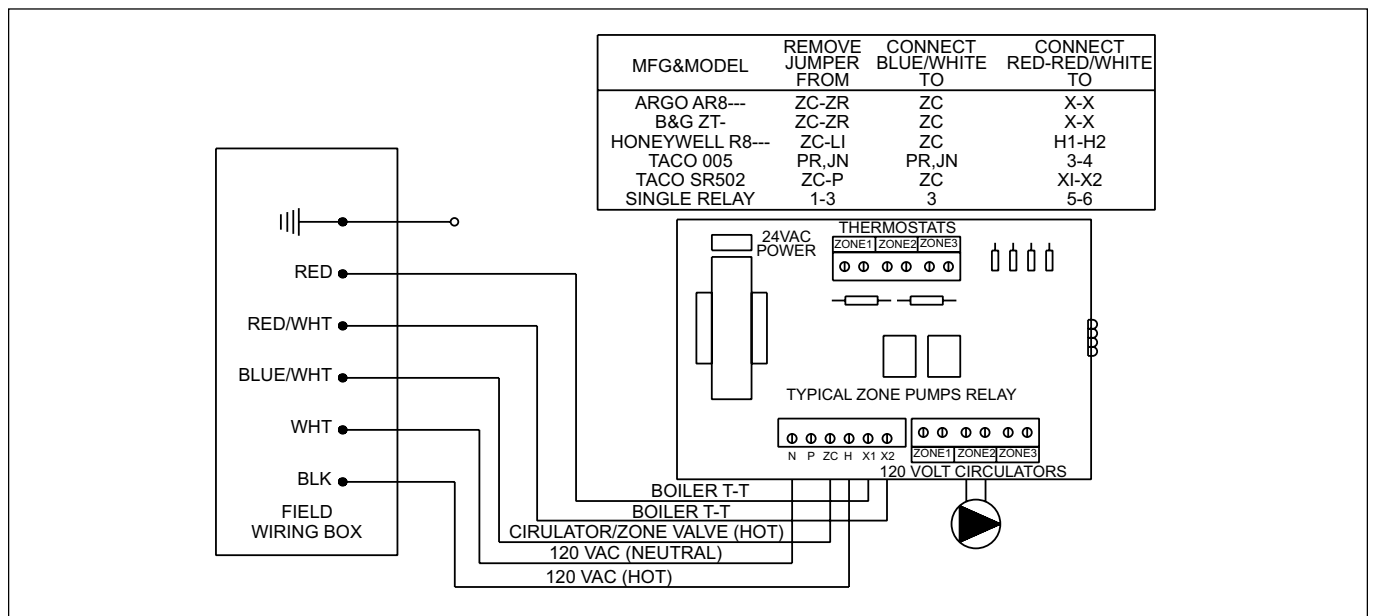

Figure 28. Multiple Zones with Circulators and Room Thermostats.
4. Multi zone/Multi-relay-circulator Installations: Multiple circulators must not exceed 5 amps total when connected to blue wire (see Figure 28).